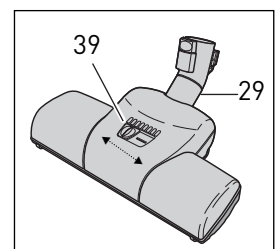

Figure 19
### Turbo Nozzle - Figure 19
The Turbo nozzle (29) has an air-driven rotating brush for gentle brushing of carpets. The Turbo nozzle can be adjusted for high and low pile carpet. To adjust the head for high pile carpet, push the slider button (39) to the right. For low pile carpet, push the slider button (39) to the left. **The slider in Figure 19 is set in the low pile position.** The rotating brush should be cleaned regularly. Remove the Turbo nozzle from the telescopic tube to clean. Remove fibers and hair from the brush manually.